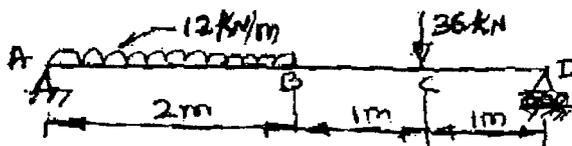

Fig.3.
13. (a) Determine the slope at B and deflection at C for the beam shown in fig. 3.
in fig. 3.